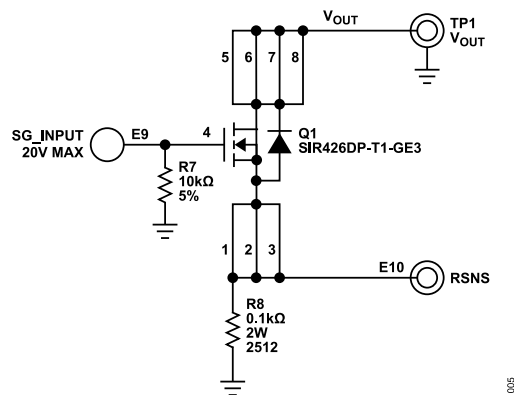
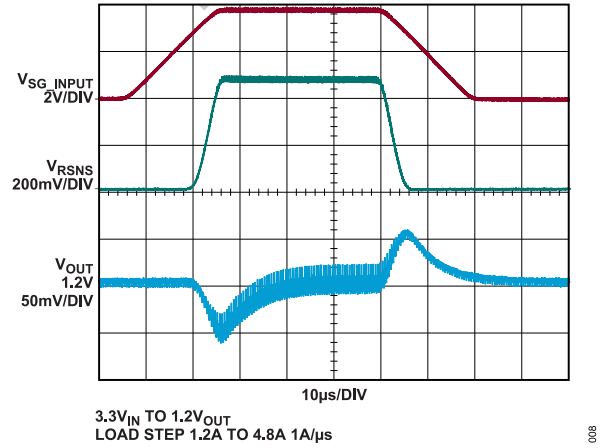

Figure 6. Optional Transient Response Circuit
Figure 9. Load Transient Response Forced Continuous Mode
- Measure the RSNS voltage to observe the current, $V_{RSNS}/100$ m Ω . Adjust the amplitude of the pulse to provide the required transient. Adjust the rising and falling edge of the pulse to provide the required ramp rate. For more details, see Figure 9 and the optional transient response circuit shown in Figure 6.